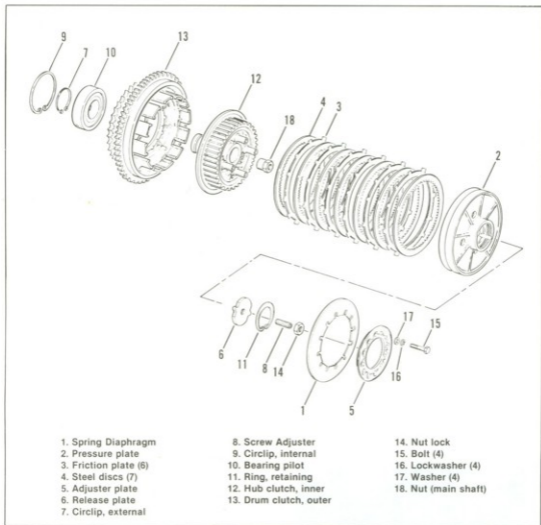

Figure 6-38. Clutch Assembly
2. See Figure 6-38. Remove the adjuster plate (5), spring diaphragm (1) and pressure plate (2).
3. See Figure 6-38. Remove nut (18) from the end of transmission mainshaft. Remove push rod end piece.
6. See Figure 6-38. Remove the steel discs (4) and friction plates (3).
7. With lock ring pliers, remove internal circlip (9) and external circlip (7).
8. Because of possible damage to the pilot bearing (10), the clutch drum and hub assembly should not be disassembled unless the bearing, hub or drum require replacement. If parts require replacement, press clutch hub out of bearing inner race using an arbor press.
See Figure 6-38. Wash all parts, except for lined discs (3) and bearing (10) in cleaning solvent and blow dry with compressed air.
ASSEMBLY (Figure 6-38 and 6-39)